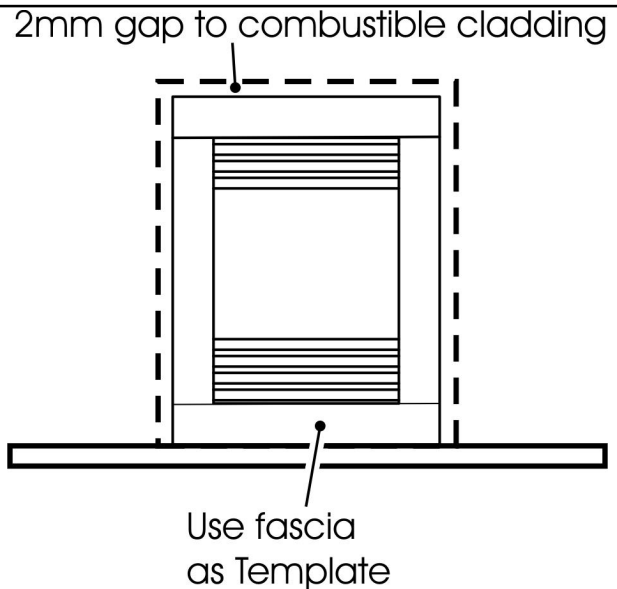

Figure 4. Removal of combustible cladding (Shown with the 'Chic' fascia)
**3.17** If the appliance is to be fitted against a wall with combustible cladding, the cladding must be removed from the area covered by the fascia. The cladding must also not touch the fascia (See figure 4). We suggest that the actual fascia is used as a template to mark the area for combustible cladding removal and that this area is increased by at least 2mm all round. Ensure that the depth of the cladding will not prevent the fitting or subsequent removal of the fascia.
The fireplace floor should be reasonably flat to ensure that the hotbox can be installed without it rocking and so that a good seal can be made at the bottom front of the box. The front face of the fireplace should be reasonably flat over the area covered by the hotbox top and side flange seals to ensure good sealing. These faces should be made good if necessary. If the appliance is to be fitted against a wall with combustible cladding, the cladding must be removed from the area covered by the fascia. The cladding must also not touch the fascia (See figure 4). We suggest that the actual fascia is used as a template to mark the area for combustible cladding removal and that this area is increased by at least 2mm all round.